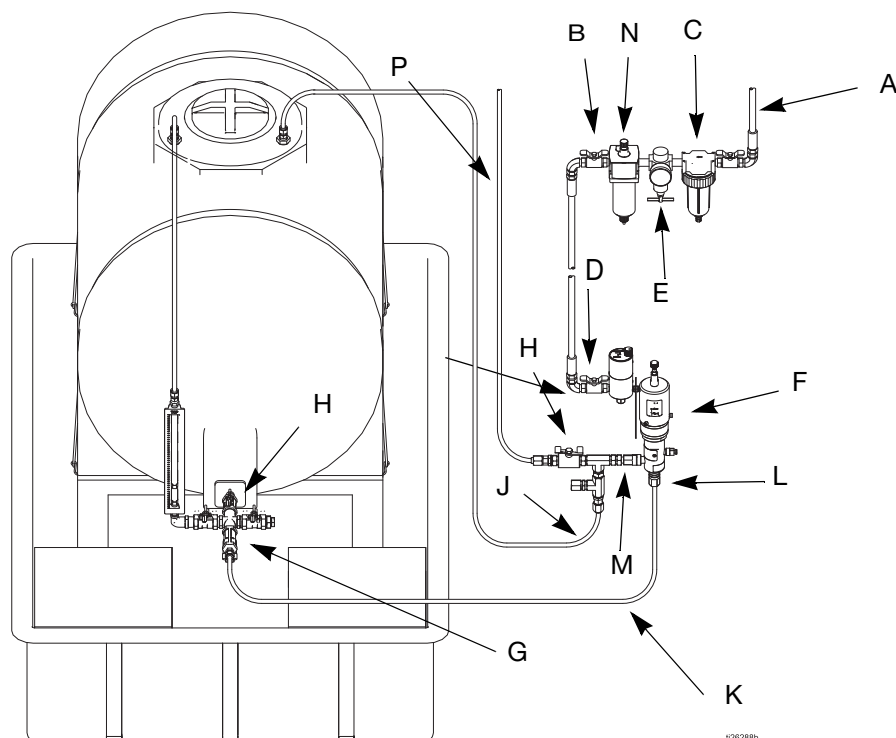

FIG. 2: Typical Installation
Install the following required accessories in the order shown in FIG. 2, using adapters as necessary. See **Kits and Accessories** starting on page 43.
FIG. 2 is an example of an installation with a Python chemical injection pump. Your installation may differ from what is shown here. (See **Required Accessories**, page 8.) The Python pump (F) is the only component in FIG. 2 supplied by Graco. All other components are supplied by customer.
If you have an application, or mounting configuration, that requires installation in a manner different than depicted in FIG. 2, please contact your Graco distributor for assistance.